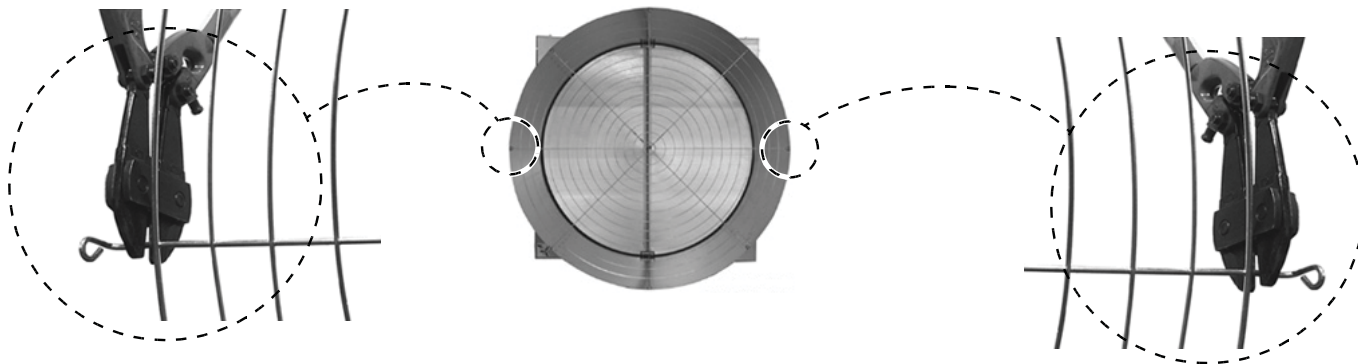

Figure 16. Cutting Screen Legs for Installing Cone Clips
*52" models can be mounted 3.5" apart if Cone Clips are used. See Figures 16 and 17.
If 52" Fans need to be installed 60"-64-1/2" on center, Cone Clips can be used to keep Cones from interfering with one another. First, cut the two legs from the horizontal Screen wire as shown in **Figure 16** below.